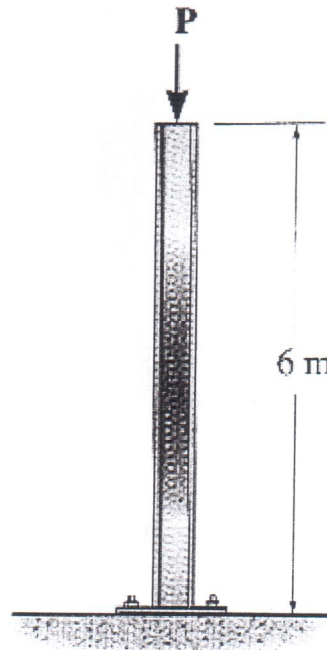

Figure 2.
- (3) A **W360 X 57** column is made of **A-36** steel ($E = 200$ GPa, $I_X = 160 \times 10^6$ mm⁴ and $I_Y = 11.1 \times 10^6$ mm⁴). The column is fixed supported at its base and free at the top. If the column is subjected to an axial load $P = 75$ KN, determine the factor of safety with respect to buckling.
- (4) The **W360 X 57** column, shown in **Figure 2**, is made of **A-36** steel ($E = 200 \text{ GPa}$, $I_X = 160 \times 10^6 \text{ mm}^4$ and $I_Y = 11.1 \times 10^6 \text{ mm}^4$). Determine the critical load, P_{cr} , if the lower end of the column is fixed supported and the upper end is free to move about the strong axis (X-axis) and is pinned about the weak axis (Y-axis).